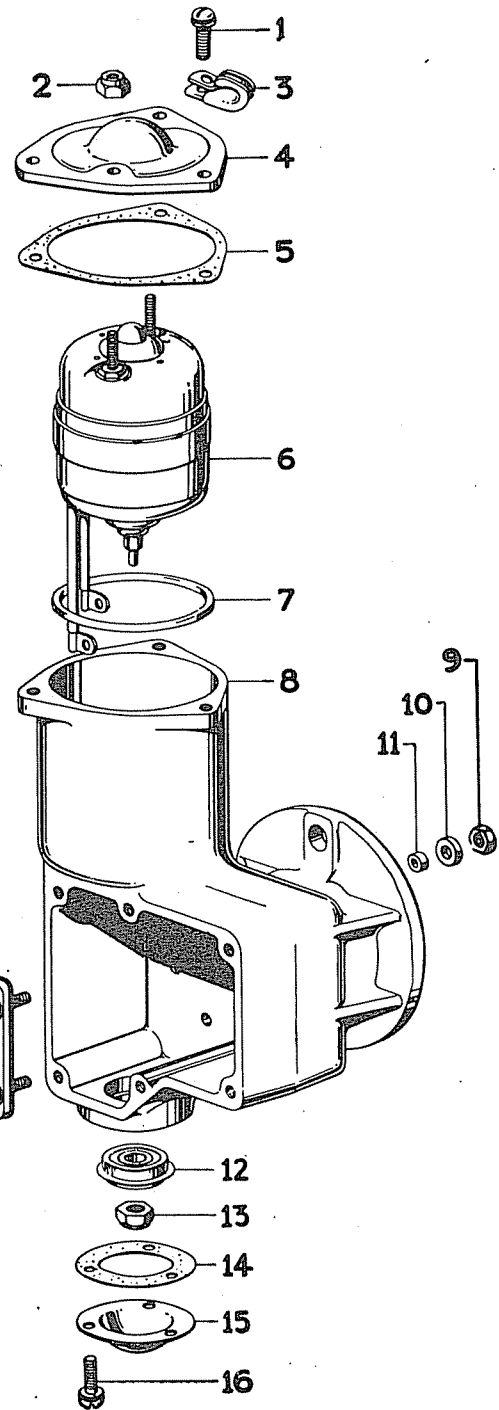
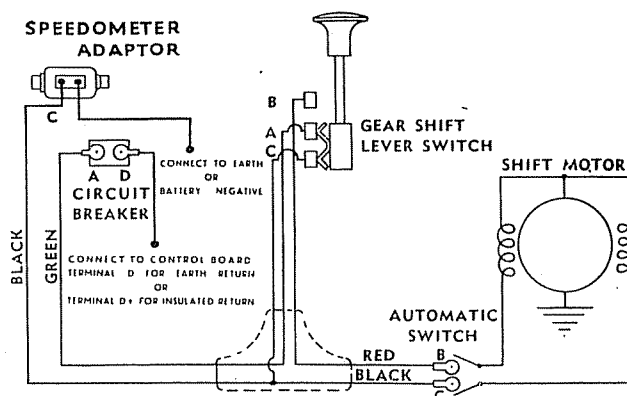
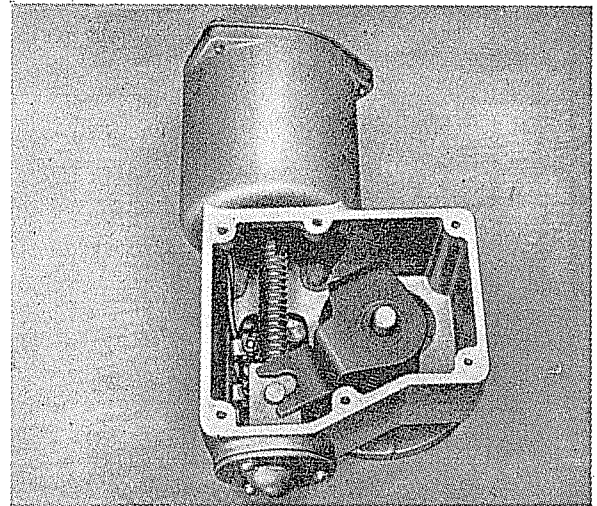

Fig. 52—AXLE SHIFT UNIT (EXPLODED VIEW)
Fig. 53
Fig. 54
When the button is down, the battery wire is connected to wire C, Figure 53, leading to the other field of the axle shift motor and also to the speedometer adaptor.
The wiring system as shown in Figure 53 has four terminals. Two of them, B and C in a double line run to the axle shift unit on the axle. Of these the longer **Red** wire is connected to the bottom terminal, and the shorter **Black** wire is connected to the top terminal. The short single **Black** wire C is connected to the speedometer adaptor and the **Green** wire A is connected to the circuit breaker. Wire D connects the copper stud of the circuit breaker to the control boards. The circuit breaker protects the system in the advent of a short circuit. Should a short circuit occur, it will open the circuit until the trouble has been located and corrected.
This unit shifts the axle into high or low range. Figure 54 shows the axle shift unit in the high range of the axle. In this position wire B, Figure 53, carries the current to one field of the motor (6) Figure 52 so that the armature and drive screw (20) turn in a clockwise direction and move the nut down. When the nut has travelled a sufficient distance to wind the spring (23) a contact bumper on the nut breaks an electrical connection on the automotive switch (17) so that the motor is no longer energised and the armature stops rotating.
- (4) Remove the front cover and drain lubricant.
- (5) After removing the front cover, nut will be at either top or bottom, depending upon the position in which the shift button was last left, see Figures 54 and 55.
If the electric shift should fail to operate properly, the trouble should first be located. A very handy tool for this is a test light, consisting of a 12 volt light bulb, with two wires a few feet long and small battery clips on the ends. Refer now to the wiring diagram, Figure 53 and first connect the test light to Point (D) on the circuit breaker and connect the other wire from the test light to earth. Turn on ignition switch, or accessory switch in the case of a diesel, and the light should show. If it fails to light at this point there is poor connection or broken wire between the ignition switch and circuit breaker. Next connect test light to Point (A) on the circuit breaker, Figure 53, and again the light should show. If it fails to show immediately, watch the light carefully and listen to the circuit breaker for a minute to see if it is flashing off and on. The light should stay on continuously at this point. If it flashes off and on, or you hear the breaker clicking, it indicates that too much current is flowing and the circuit breaker is opening. This is due either to a short circuit, or the motor in the shift unit not being free to turn. To determine which of these it is, remove the two wires (B) and (C) from the axle shift unit and recheck. If the light still flashes off and on or you still hear the breaker clicking, it is due to a short in the harness, but if the light now stays on continuously, the trouble is in the shift unit.
If there is no light at all at this point and the circuit breaker cannot be heard clicking, disconnect the green wire from terminal (A) Figure 53, and again clip the test light to terminal (A) post on the circuit breaker. If the light fails to show here and did show on terminal (D) the circuit breaker is faulty and should be replaced.
The automatic switch (17) Figure 52 (serviced only as an assembly) should have clean, free moving points which close firmly under spring tension.
The drive screw (20) Figure 52 (serviced only as an assembly) should turn freely by rotating the screw while holding the nut. When the nut gets to the end of the screw, the screw can continue to turn but the nut should not jam or run off the end. By turning the screw in the opposite direction, the nut will go to the other end and stop as before, while the screw can continue to be turned. The fibre bumper in the nut should be a tight press fit. BE SURE IN ASSEMBLY THAT THIS FIBRE BUMPER IS IN TOWARD THE SWITCH.
The motor (6) Figure 52 (serviced only as an assembly) is reversible so that with the motor housing connected to one battery terminal and either one of the two motor wires connected to the other battery terminal, the motor will run in one direction. With the other motor wire connected to the battery, the motor will run in the opposite direction.